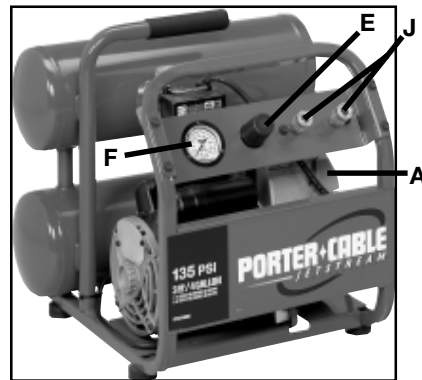

Figure 1
Compressor Pump (A) Fig. 1: To compress air, the piston moves up and down in the cylinder. On the downstroke, air is drawn in through the intake valves. The exhaust valves remain closed. On the upstroke of the piston, air is compressed. The intake valves close and compressed air is forced out through the exhaust valves.
Regulator (E) Fig. 1: The air pressure coming from the air tank is controlled by the regulator. Turn the regulator knob clockwise to increase pressure and counterclockwise to decrease pressure. To avoid minor readjustment after making a change in pressure setting, always approach the desired pressure from a lower pressure. When reducing from a higher to a lower setting, first reduce to pressure less than that desired, then bring it up to the desired pressure. Depending on the air requirements of each particular accessory, the outlet regulated air pressure may have to be adjusted while operating the accessory.
Quick Connect Air Outlets (J) Fig. 1: For easy connecting and disconnecting of tools. Allows two tools to be used at the same time.
Outlet Pressure Gauge (F) Fig. 1: The outlet pressure gauge indicates the air pressure available at the outlet side of the regulator. This pressure is controlled by the regulator and is always less than or equal to the tank pressure. See “Operating Procedures”.
2. Inspect air intake filter (H) Fig. 1. Clean or replace as necessary.